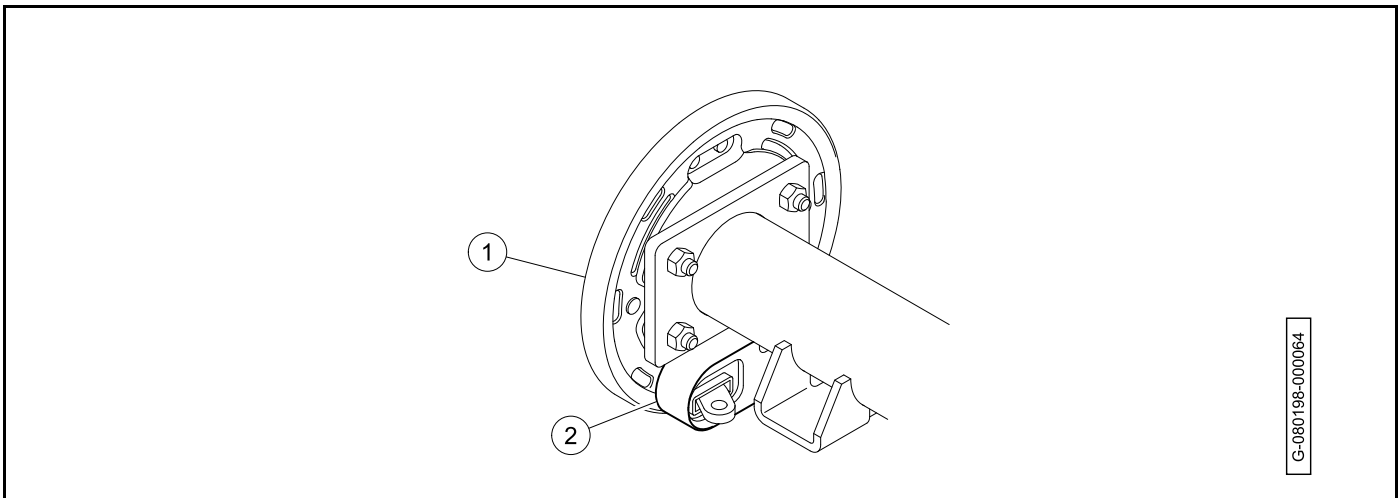

Figure 6-6
1. Carefully clean the brake backing plate (1) and all of its mechanical components (Figure 6-6).